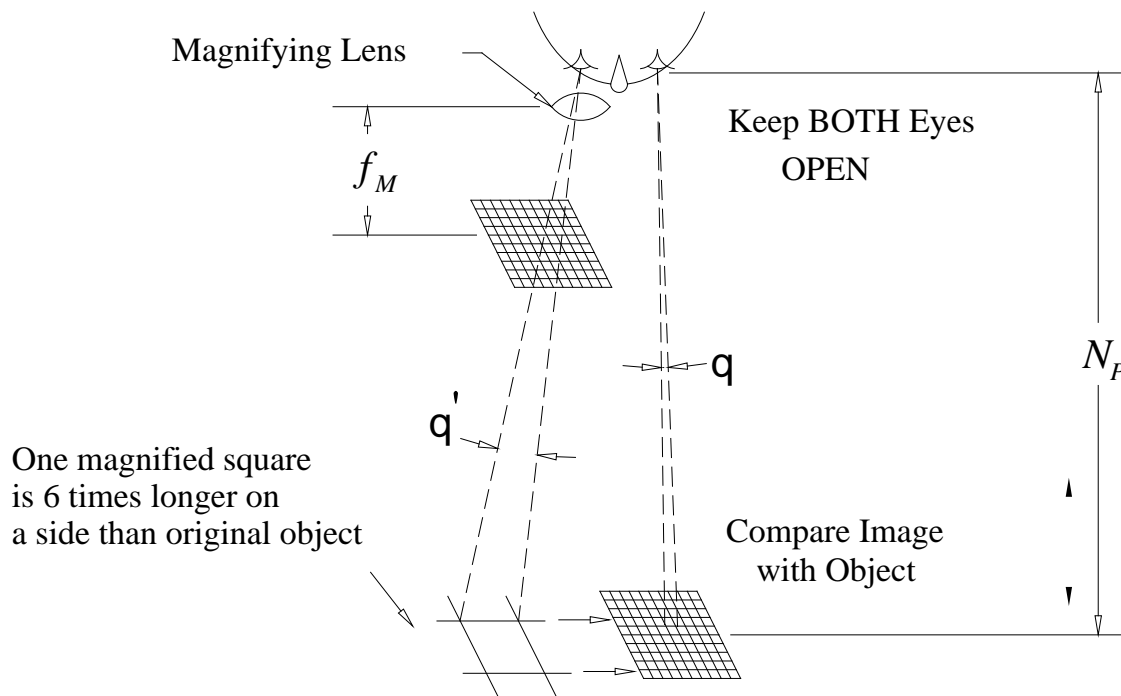

Figure 5 Diagram showing how you can estimate magnification using two grid charts.
9) Estimate the magnifying power of the medium focal length lens by the following method. Find the two small cards printed with a 5cm x 5cm millimeter ruled grid. Place one of the cards on the lab table. Move your head over the paper so that you can comfortably focus on the grid. Now **keeping both eyes open** place the magnifying lens in front of your right eye and as close to it as possible. Take the other card and place it in front of the magnifier. Move the card until a sharp image is formed with the magnifier. See Figure 5. Now the tricky part. Keeping both eyes open compare the two images, estimating how much taller one of the squares in the magnifier is compared to the grid viewed without. Write a sentence or two describing what you see or make a simple diagram. If you have trouble using both eyes together try blinking to look first though one eye and then the other. (Additionally if you have trouble doing this try putting the lens over your left eye. You may be left eye dominate. Ask your lab instructor how to determine which "eyed" you are.) To help in your estimate, every tenth line is ruled wide. Have your lab partner measure the distance from your eye to the lab table where the card is laying. This will be the value of the near point to use in calculating the magnification.